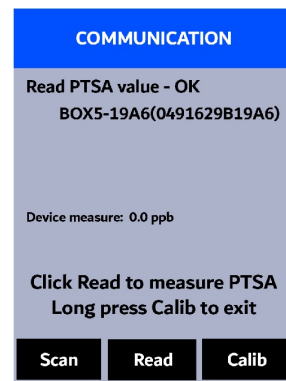

Figure 23.
9. When the connection is established, the SP-400 displays the latest PTSA measurement from the connected sensor (Figure 23).